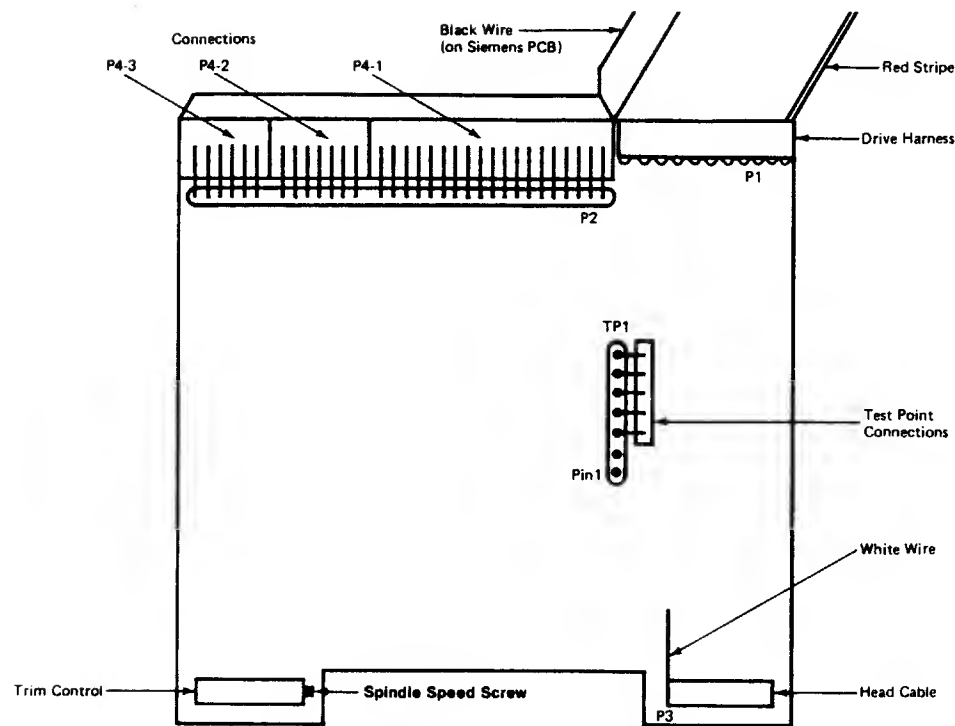

FIGURE 6-9. DISK DRIVE PCB
- 6.3.1.2 Check the P4-1, P4-2, and P4-3 connectors at the P2 connection on the rear of the PCB. The black wire on the P4-1 connector should be attached to the first pin on the right of P2. There should be FOUR PINS between the P4-1 and P4-2 connectors. The brown wire on the P4-2 connector should be second from the right. The yellow wire on the P4-3 connector should be to the right. (See Figure 6-9.)
- 6.3.1.3 Connect the drive cable to the P1 connection in the right rear corner of the PC board. The red stripe on the drive cable must be to technician's right. (See Figure 6-9.)
- 6.3.2.3 Locate the trim control at position R23 on the drive PC board. (See Figure 6-9.) The small gold screw on the trim control is the spindle speed adjustment screw.
- 6.3.2.11 Locate the trim control at position R23 on the PC board. (See Figure 6-9.) The small gold screw on the trim control is the spindle speed adjustment screw.
- 6.3.3.2 Remove the Head Cable Connector from position P-3 on the Drive PCB. (See Figure 6-9.) Leave all other connectors attached.
- 6.3.3.10 Attach the Head Cable Connector to position P-3 on PCB. (See Figure 6-9.)
- 6.3.4.1 Check the P4-1, P4-2, and P4-3 connectors at the P2 connection on the rear of the drive PC board. See Figure 6-9 for connector order.
- 6.3.4.2 Connect the drive cable to the P1 connection in the right rear corner of the PC board. The red stripe on the drive cable must be to technician's right. (See Figure 6-9.)